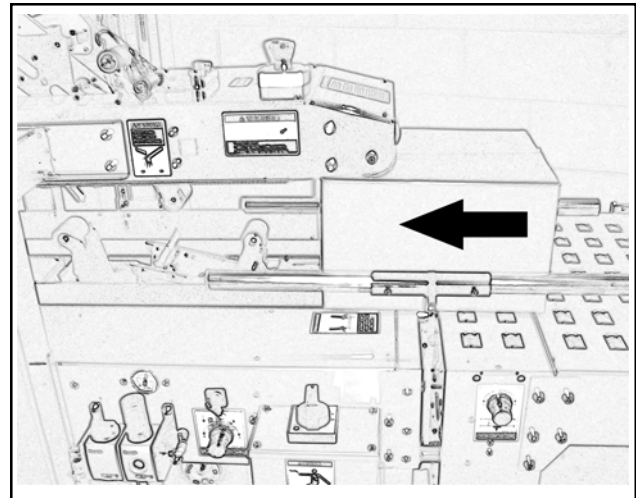

Figure 3-9—Box Conveyed Through Machine
3. Once the box is pushed under the upper taping head, the upper drive assembly actuator switch is released to lower the upper drive assembly to descend onto the box top, as shown in Figure 3-9, allowing the drive belts to convey the box through the upper and lower taping heads for application of the tape seals.